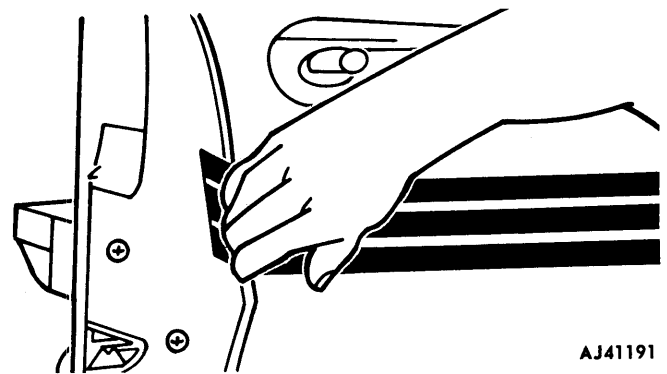

Fig. 20-19 Installing Decal at Corners or Edges
(7) Where possible, extend decal 1/2 inch beyond corners or edges (fig. 20-19) and wrap firmly using finger pressure and squeegee. Avoid trapping air in these areas.